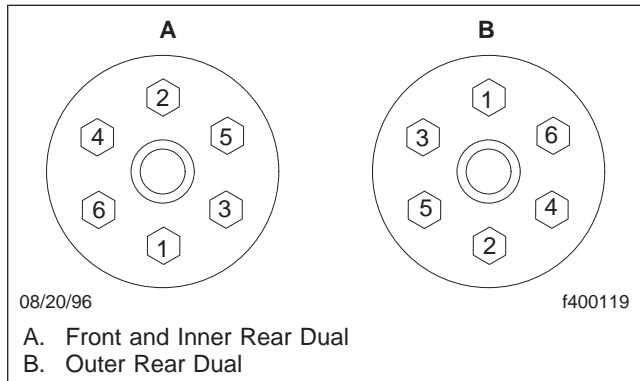

Fig. 1, Wheel Nut Tightening Sequence (6-stud hubs)
When checking wheel nuts on a dual disc assembly, remove one outer nut at a time, tighten the inner nut, then reinstall the outer nut. Repeat this procedure for all of the inner wheel nuts in the sequence shown in Fig. 1, Fig. 2, or Fig. 3. Then, tighten all of the outer wheel nuts in the same sequence.
- On 6-stud, stud-pilot hubs, tighten the wheel nuts 450 to 500 lbf-ft (610 to 678 N-m). See Fig. 1 for the tightening sequence.